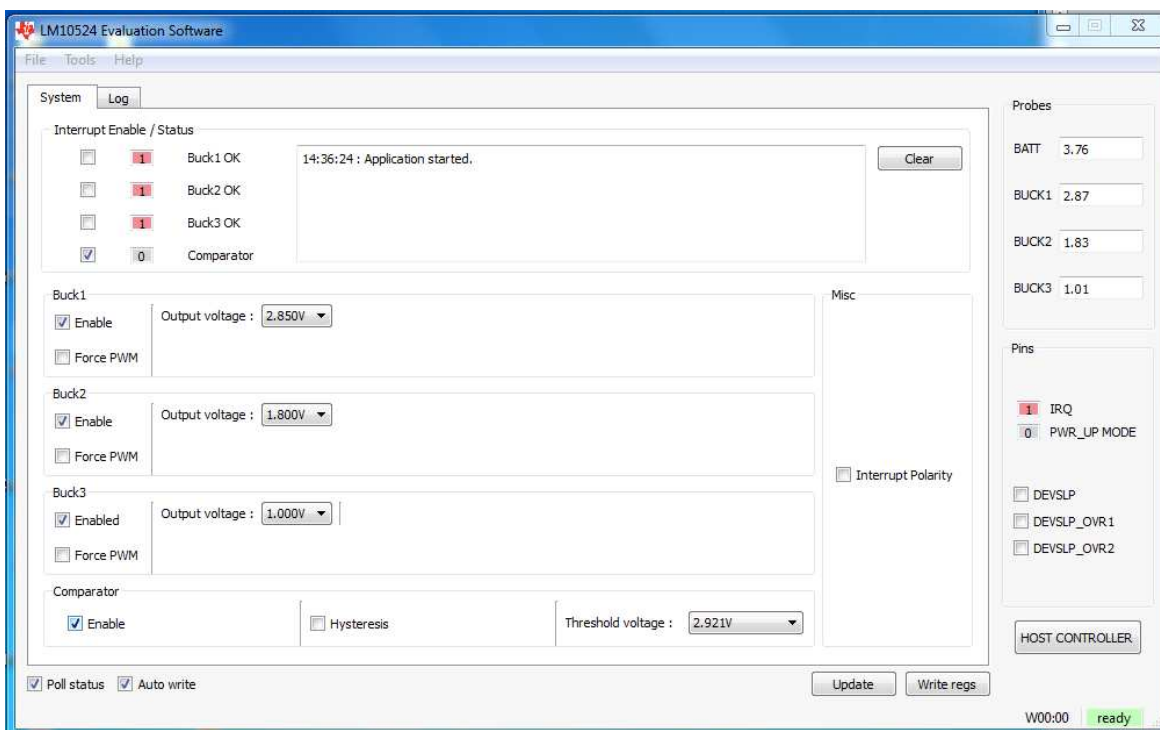
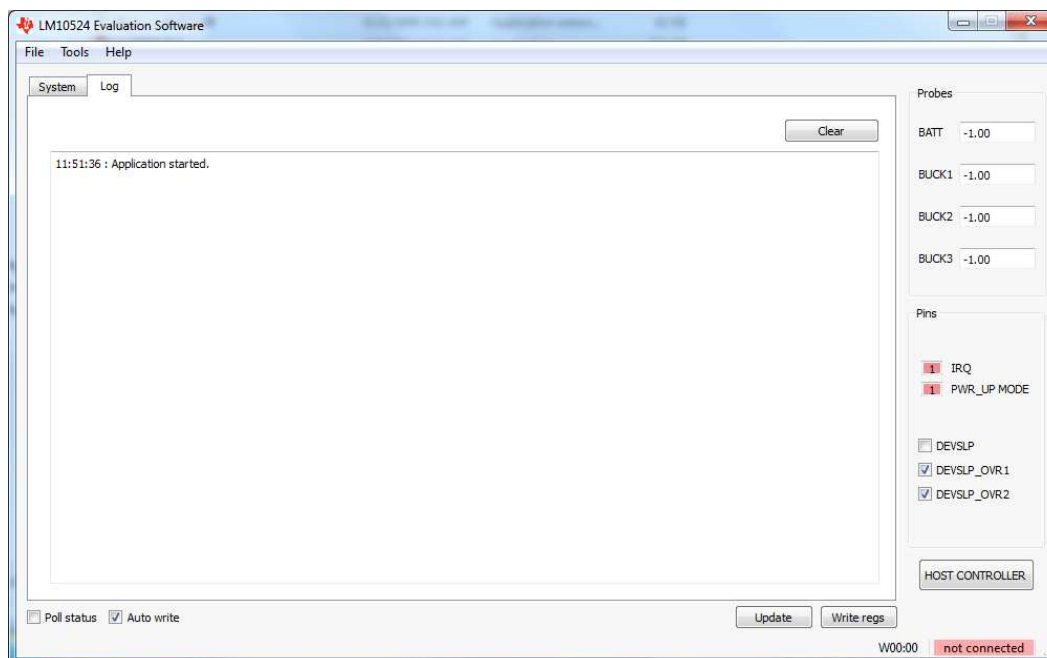

Figure 2. System Settings Tab
Figure 3. Log Tab
4.2 Main Screen (Figure 2 & Figure 3)
4.5 System Settings Tab (Figure 2)
4.6 Log tab (Figure 3)